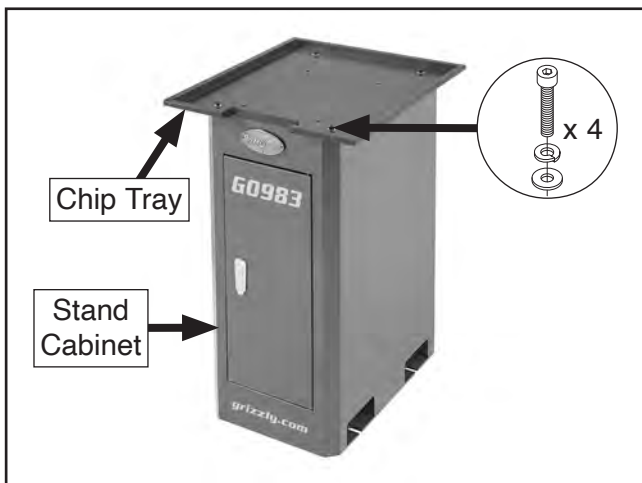

Figure 14. Chip tray attached to stand.
3. Attach chip tray to stand with (4) M8-1.25 x 10 cap screws, 8mm lock washers, and 8mm flat washers (see **Figure 14**). Hand-tighten fasteners for now.